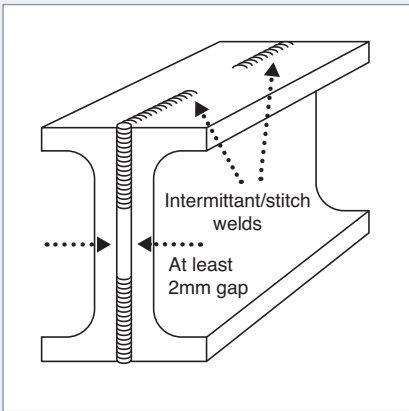

Fig. 12
**Overlapping surfaces.** There should be a minimum gap of at least 2mm between plates, overlapping surfaces and back-to-back angles and channels (fig. 12). When small overlaps are unavoidable, seal edges by welding. Where seal welding is not practical, temporary surface staining in crevices may be apparent after galvanizing and quenching. Clean with a bristle brush and mild detergent. Crevices can be sealed after galvanizing with a suitable sealant.